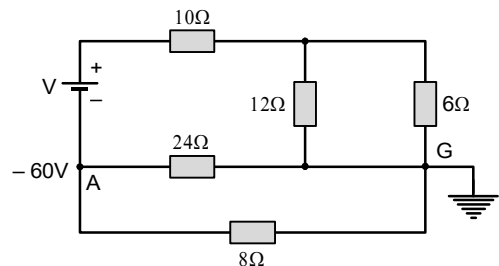

Fig.1.58: Given circuit
- In fig.1.58 the potential of point *A* = -60 V . Using Kirchhoff's laws find (a) value of *V* and (b) power dissipated by 8Ω resistance. (Ans. 200 V , 450 W)